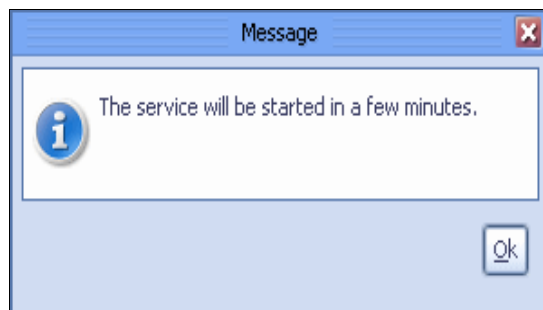

Figure 10-92 Start server message window
4. A message displays and states that the service will be started. Click **OK** (Figure 10-92).